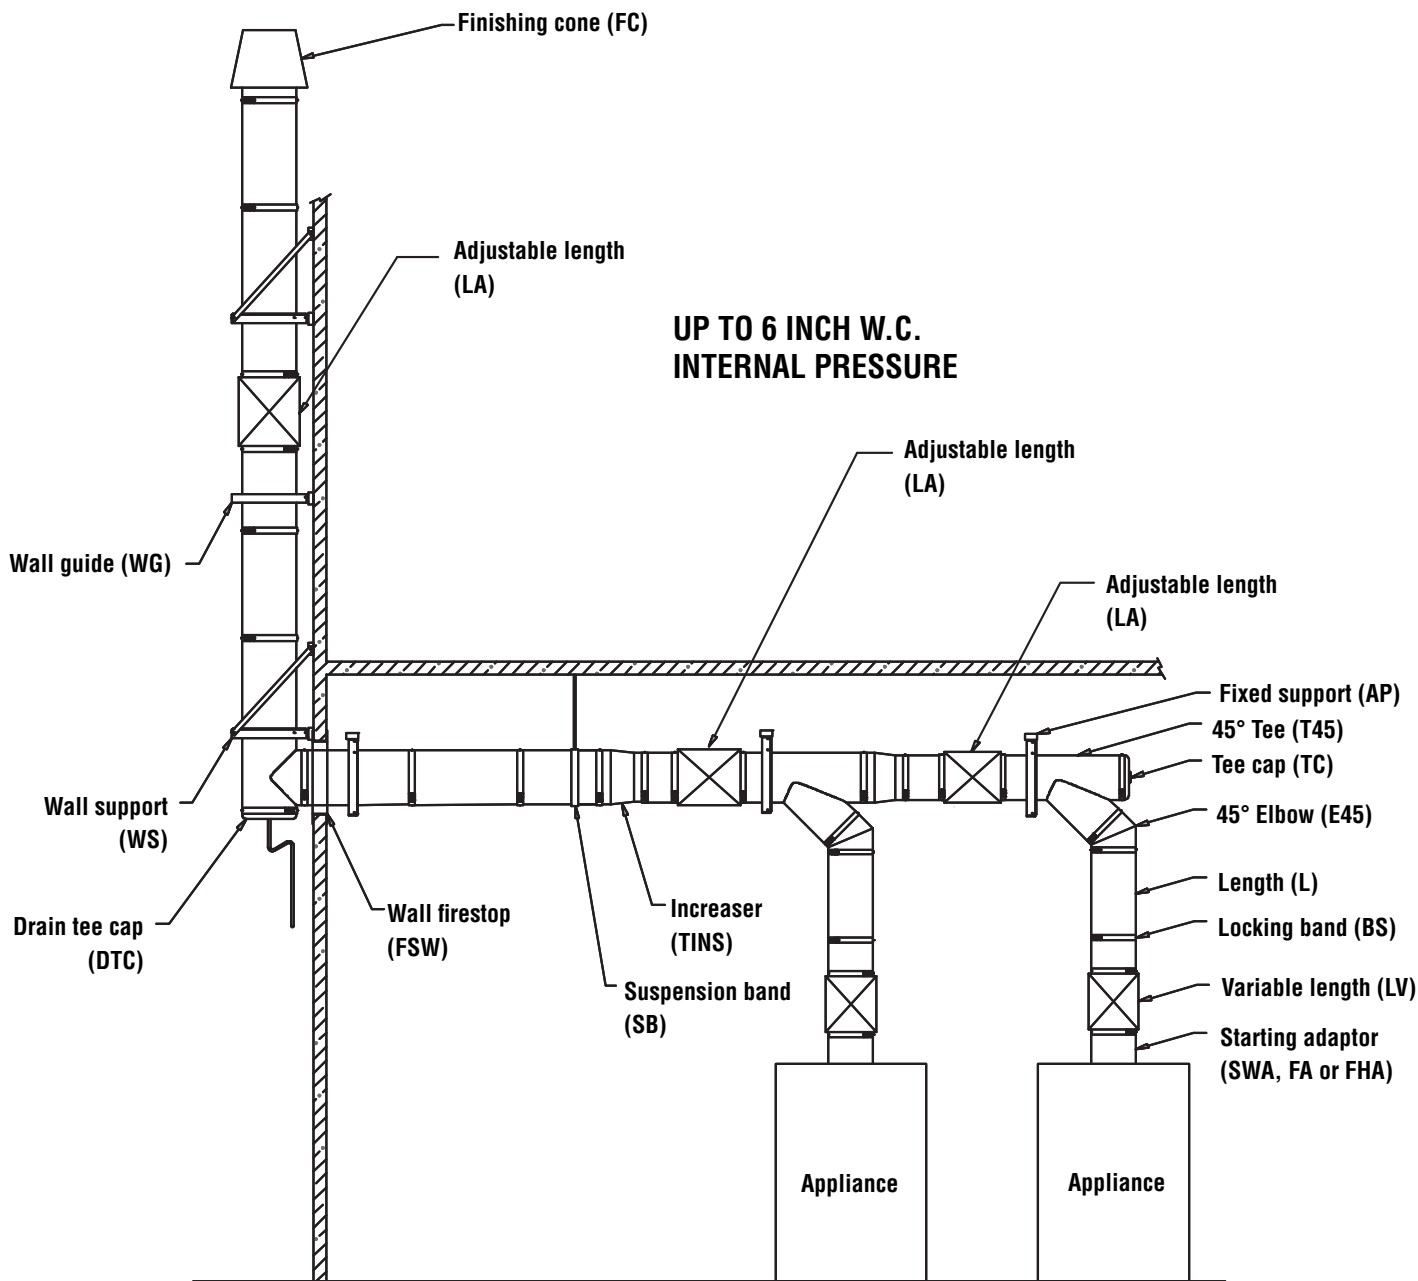

Figure 66 - Adjustable and Variable length typical location
- The adjustable length (LA) is used for two functions, one is to make odd lengths and the other to serve as an expansion joint.
- The adjustable length may be used when internal pressure do not exceed 6" water column or in well ventilated areas. See **Figure 66** for good positioning of the adjustable length.